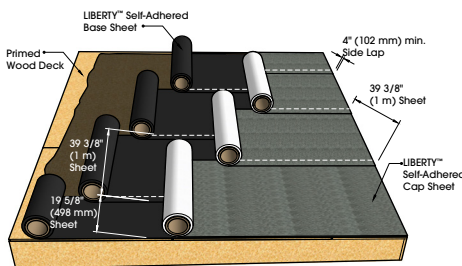

Figure 1
2. **Start at the low point of the roof** and align with the edge metal, with the selvage edge (see figure 1) at the high side of the roof.